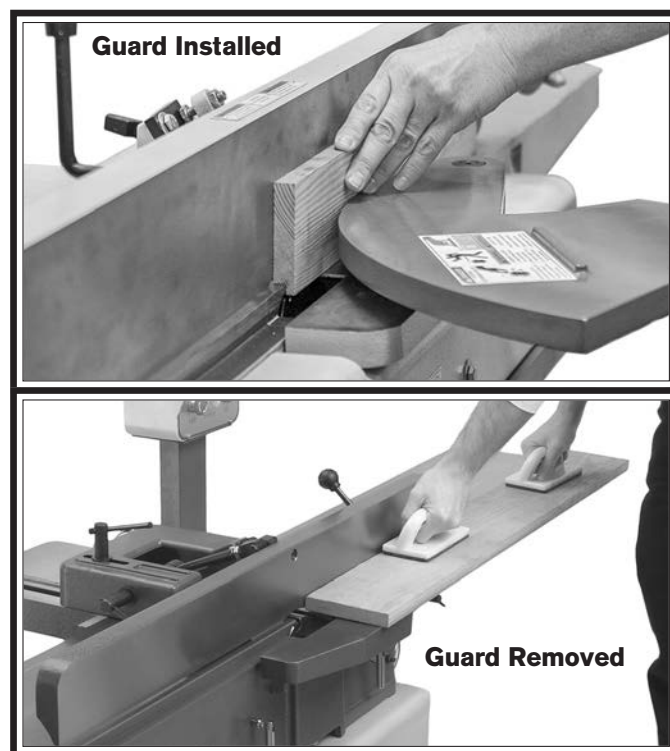

Figure 25. Example of rabbet cutting operations.
3. Remove cutterhead guard if necessary to perform operation (see **Figure 25**).